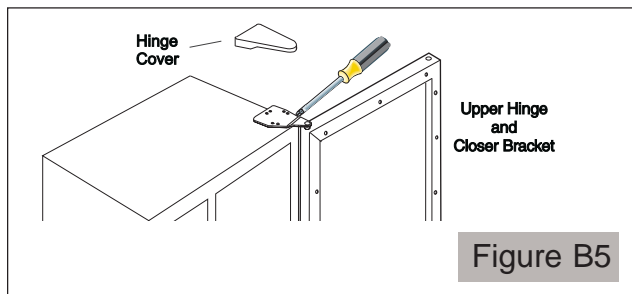

Figure B5
4. Close door, and place a small, flat-bladed screwdriver under assembly. Lift assembly out of door panel. (See Figure B5)